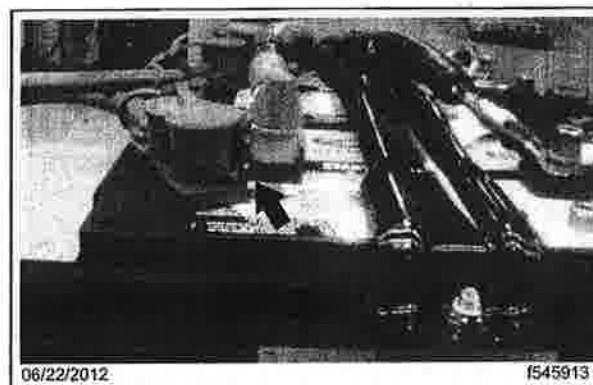

Fig. 3, Battery-Mounted Fuse
10. Attach the other end of the new battery cable, the new fuse, and new fuse holder to the positive battery post of the secondary battery . See Fig. 3. Tighten the fuse nut 96 to 108 lbf-in (1085 to 1220 N-cm).